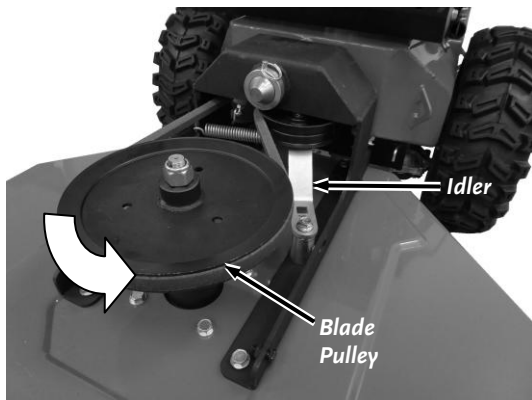

Figure 46
3. As you hold the Idler out of the way with the Ratchet using your right hand, rotate and lift the Belt up and out of the Pulley groove using your left hand (**Figure 46**).
7. Start the Belt into the groove of the Blade Pulley and turn the Pulley as you guide the Belt around and into the Pulley groove (**Figure 46**).